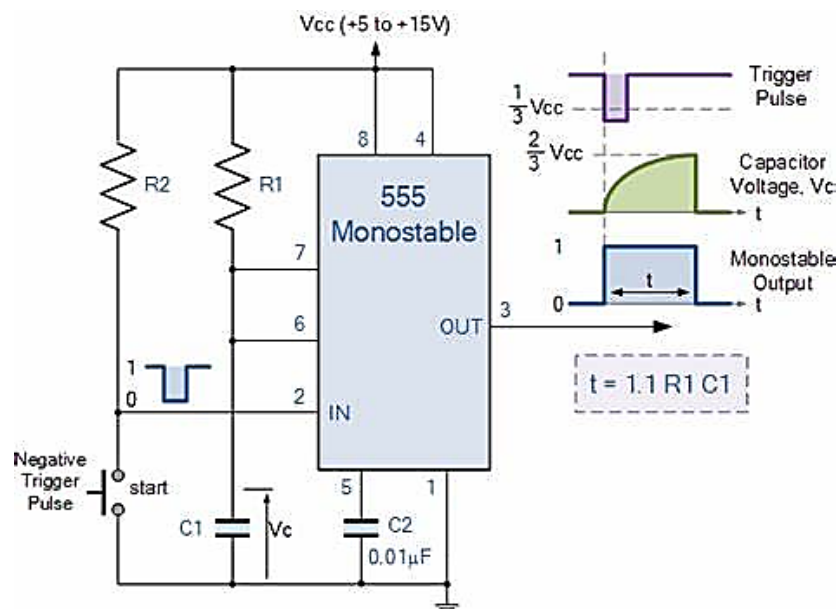

Figure 3.7: Monostable mode of a 555 timer
- a. **Monostable Mode:** A monostable circuit is one that has one stable state. When switched to its unstable state (high or low), it will stay there for a pre-determined time and switch over to its stable state. This is achieved by a resistor capacitor circuit arrangement. Figure 3.7 shows a typical monostable connection mode.